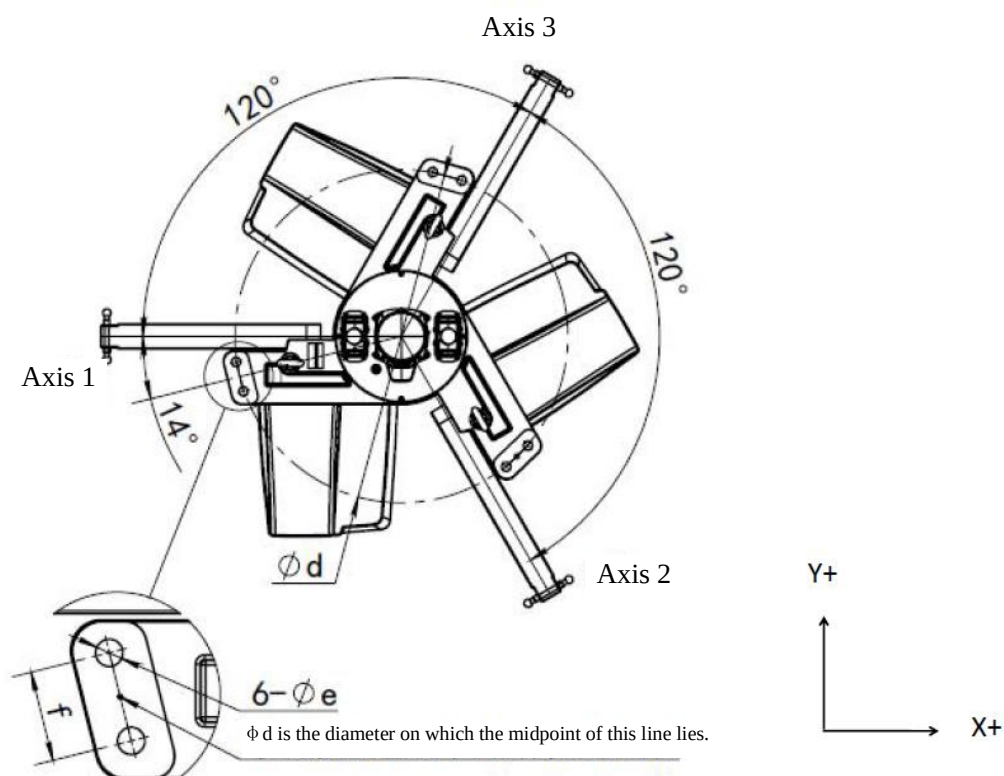

Figure 3.1.5 Diagram of robot installation direction and installation hole size
2) Keep the X axis of the default coordinate system of the robot parallel to the axis 1 of the body. To balance the force output of each axis as much as possible, when designing the frame, try to avoid making the body axis parallel to the main movement direction in the working process. Taking the Bat1100M-S3 robot as an example, refer to Figure 3.1.5 for the robot installation direction and installation hole size.